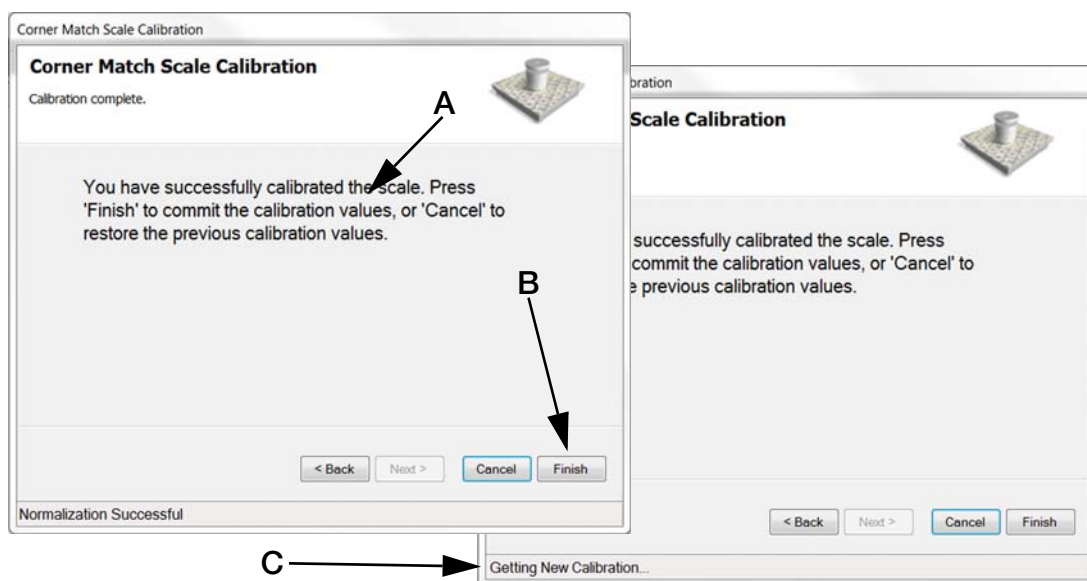

Figure 5-8. Finish Calibration
14. A message that you have successfully calibrated the scale will appear (Figure 5-8 A) then press **Finish** (Figure 5-8 B).
A message appears in the bottom of the frame **Getting New Calibration** (Figure 5-8 C). When done the pop up box will disappear and calibration is complete.